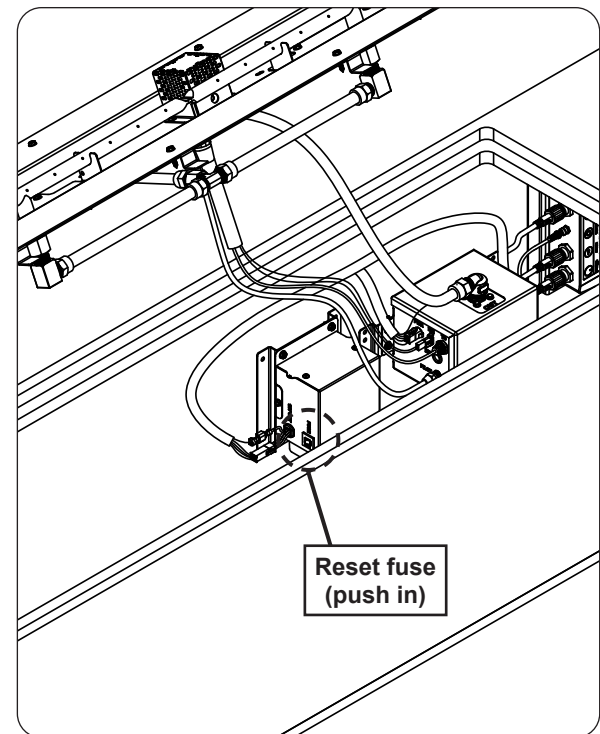

Fig. 45-2 Reset fuse
3. Gain access to the valve box and reset the fuse by pushing it in (see Fig. 45-2).